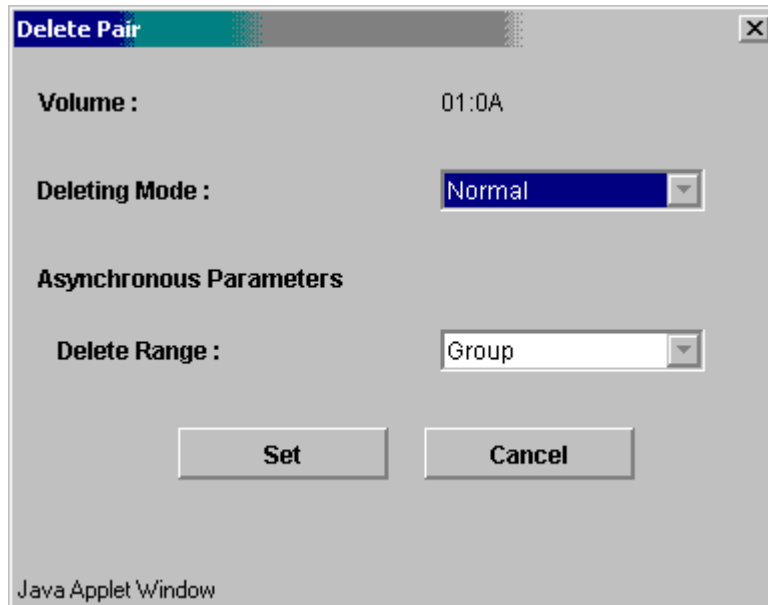

Figure 5.15 Delete Pair Panel (Asynchronous)
The Delete Pair panel (see Figure 5.15) allows you to delete one or more TC390 volume pairs and select the delete options for the pair(s). To open the Delete Pair panel, select the **Pair Operations** tab, select the subsystem or the desired CU image, select the pair(s) to be deleted, right-click, and then select **Delete Pair**.
5. Right-click, and select **Delete Pair** to open the Delete Pair panel (refer to Figure 5.15).